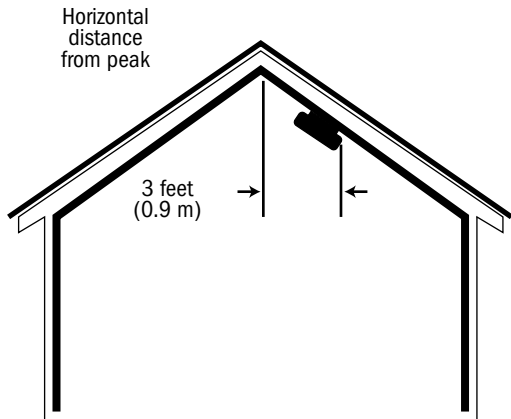

Figure 5: Recommended smoke detector location in rooms with sloped, gabled, or peaked ceilings.
- In rooms with sloped, peaked, or gabled ceilings, mount detectors within 3 feet (0.9 meters) measured horizontally from the highest point of the ceiling. See figure 5.